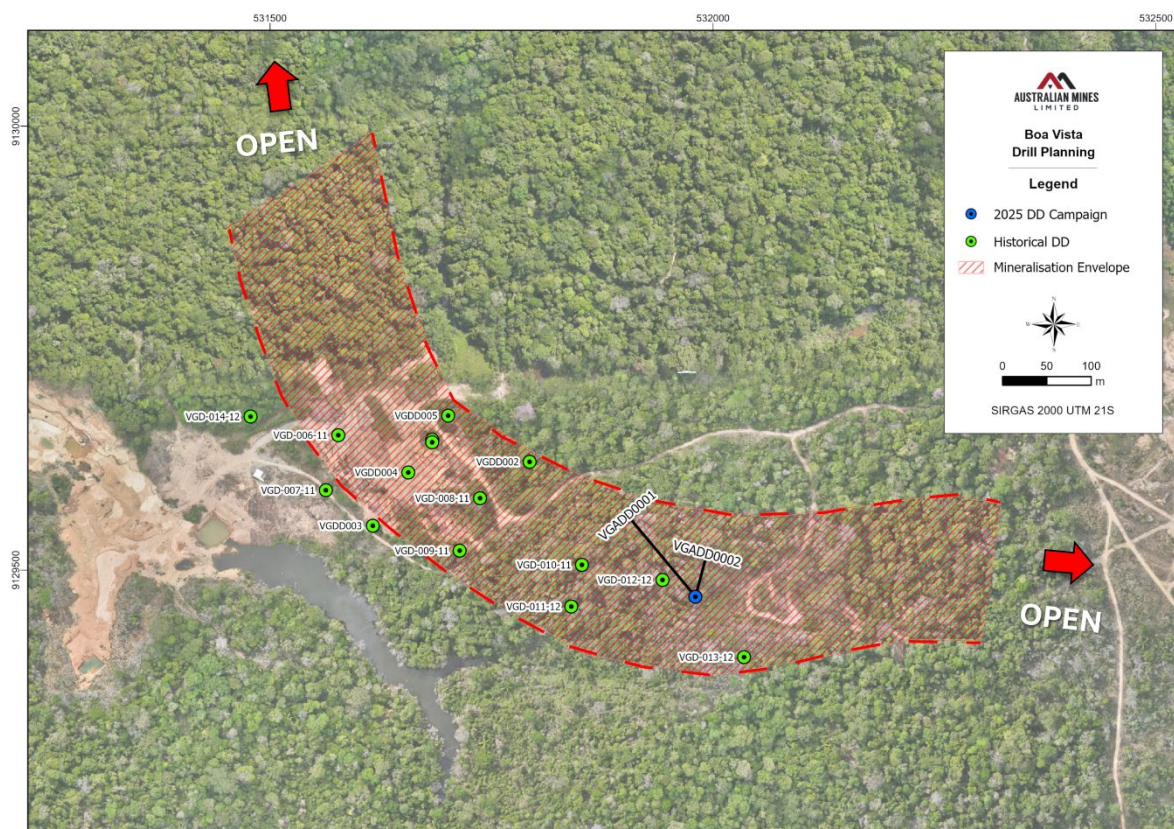

Figure 1: Historical and newly completed drillholes, showing the Interpreted Mineralised Envelope
- Visible gold observed (qualitative): Localised occurrences of **visible gold** were noted within quartz veining (Figure 1 and Table 1).
The first diamond hole (VGADD0001, see Figure 1) was drilled on an azimuth oblique to the strike of the Interpreted Mineralised Envelope³ ("IME") to test for cross-cutting (oblique) structures that may localise higher grades. The IME was intersected at approximately 100 m downhole, consistent with the Company's model. Drilling was terminated at ~260 m end-of-hole (EOH), short of the interpreted footwall contact, and the IME therefore remains open below this pierce point. Core from the IME interval shows pervasive haematite alteration with associated quartz veining and stringers, consistent with textures in historical core that Australian Mines re-logged and re-examined in 2025 and together with historical assay data defined the IME. Visible gold was observed over a 30 cm interval starting at 109.2 m downhole, near the contact between the hanging wall and the IME (see Figure 2 and Cautionary Note A)
The second hole (VGADD0002, see Figure 1), drilled approximately orthogonal to the IME trend, intersected the IME as predicted at ~120 m downhole. Several specks of visible gold (See Figure 3 Cautionary Note A) were logged over a ~20 cm interval associated with quartz veining near the contact between the hanging-wall granodiorite and the IME. The hole traversed the IME and intercepted the footwall syenogranite at ~250 m, terminating at 256 m.